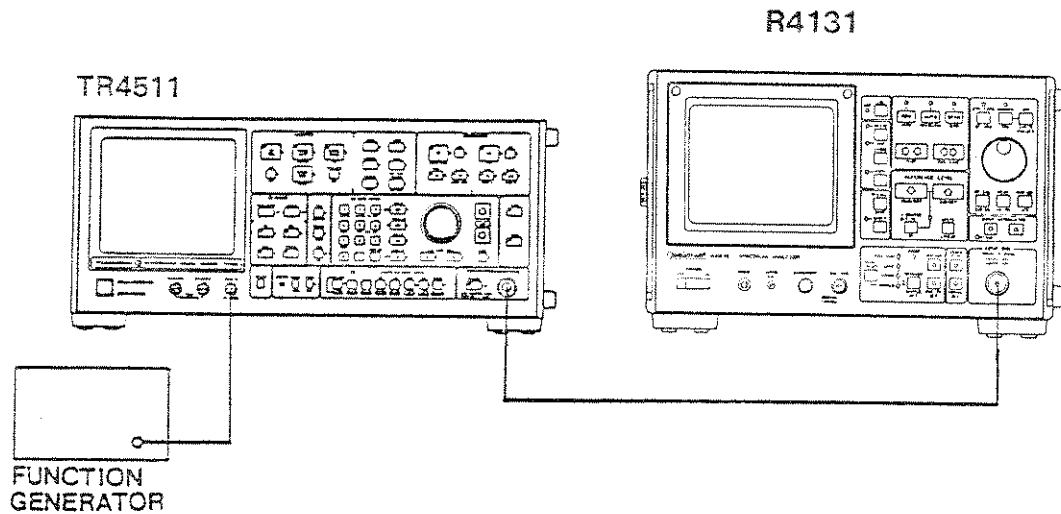

Figure 11-2 Frequency Span Test Setup
⑫ Next, perform frequency span 200 kHz to 50 kHz tests using the same setup as shown in Figure 11-2.
⑬ Set the output of the TR4511 synthesized signal source as follows: